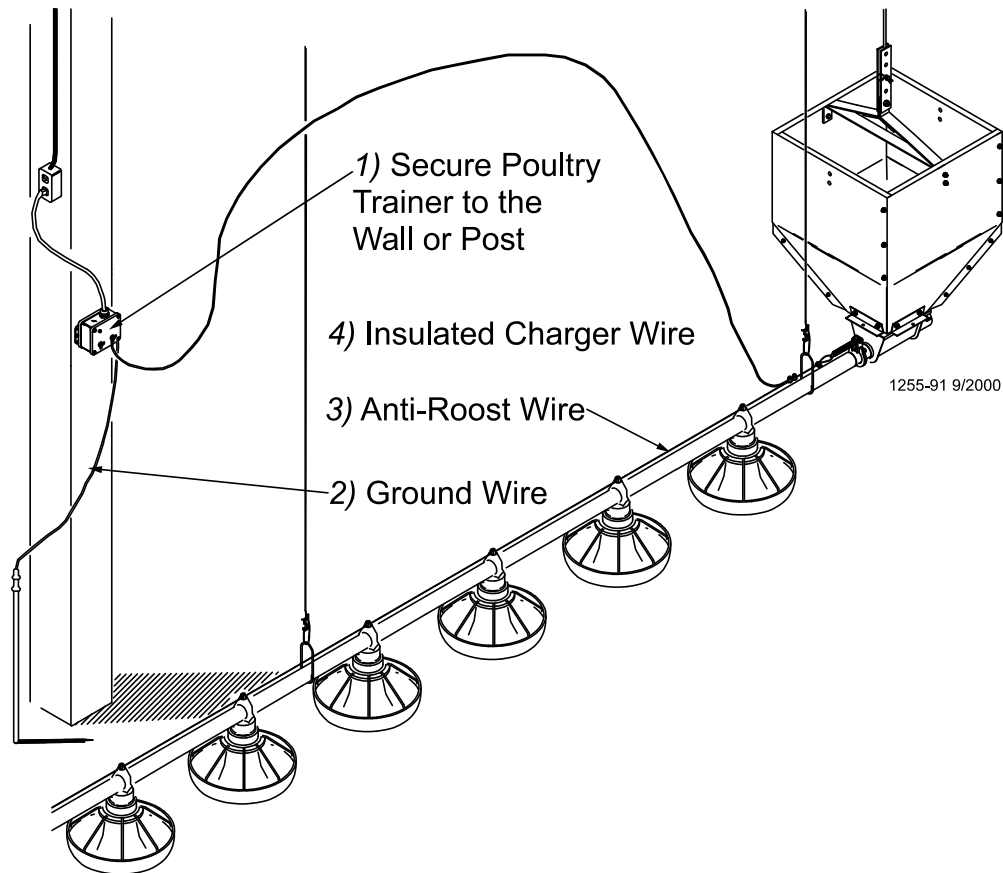

Figure 73. Poultry Trainer Installation
11. Install the Poultry Trainer or Line Charger, as shown in **Figure 73 or 74**.